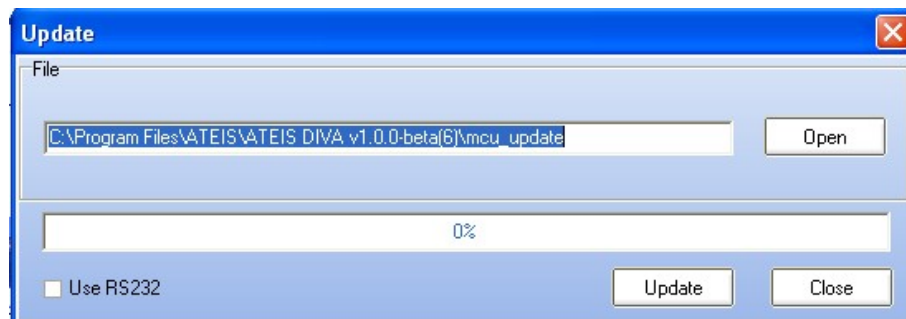

Figure 6: Update form
- If this is the first installation, please update the DIVA software to the latest version available on our website. In the DIVA software click on the menu “tools-> update”. In the update window (Figure 6), verify that the path specified is the one corresponding to the last version software, if not click open and choose the right one. Then click on the update button.